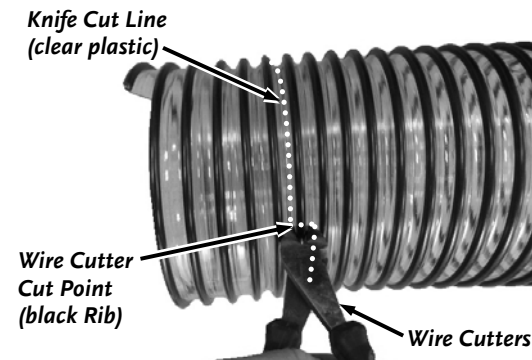

Figure 56
- c. Cut the Hose to the length required using Wire Cutters to cut the black plastic spiral and then cut the clear Hose with the razor knife (**Figure 56**).